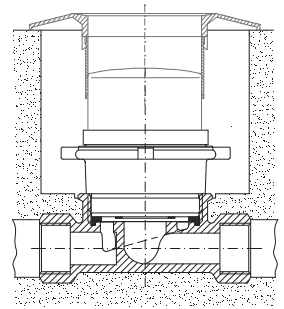

Fig. 3
- 8.13. Push the rosette onto the register cap until the end stop (see Fig. 3).